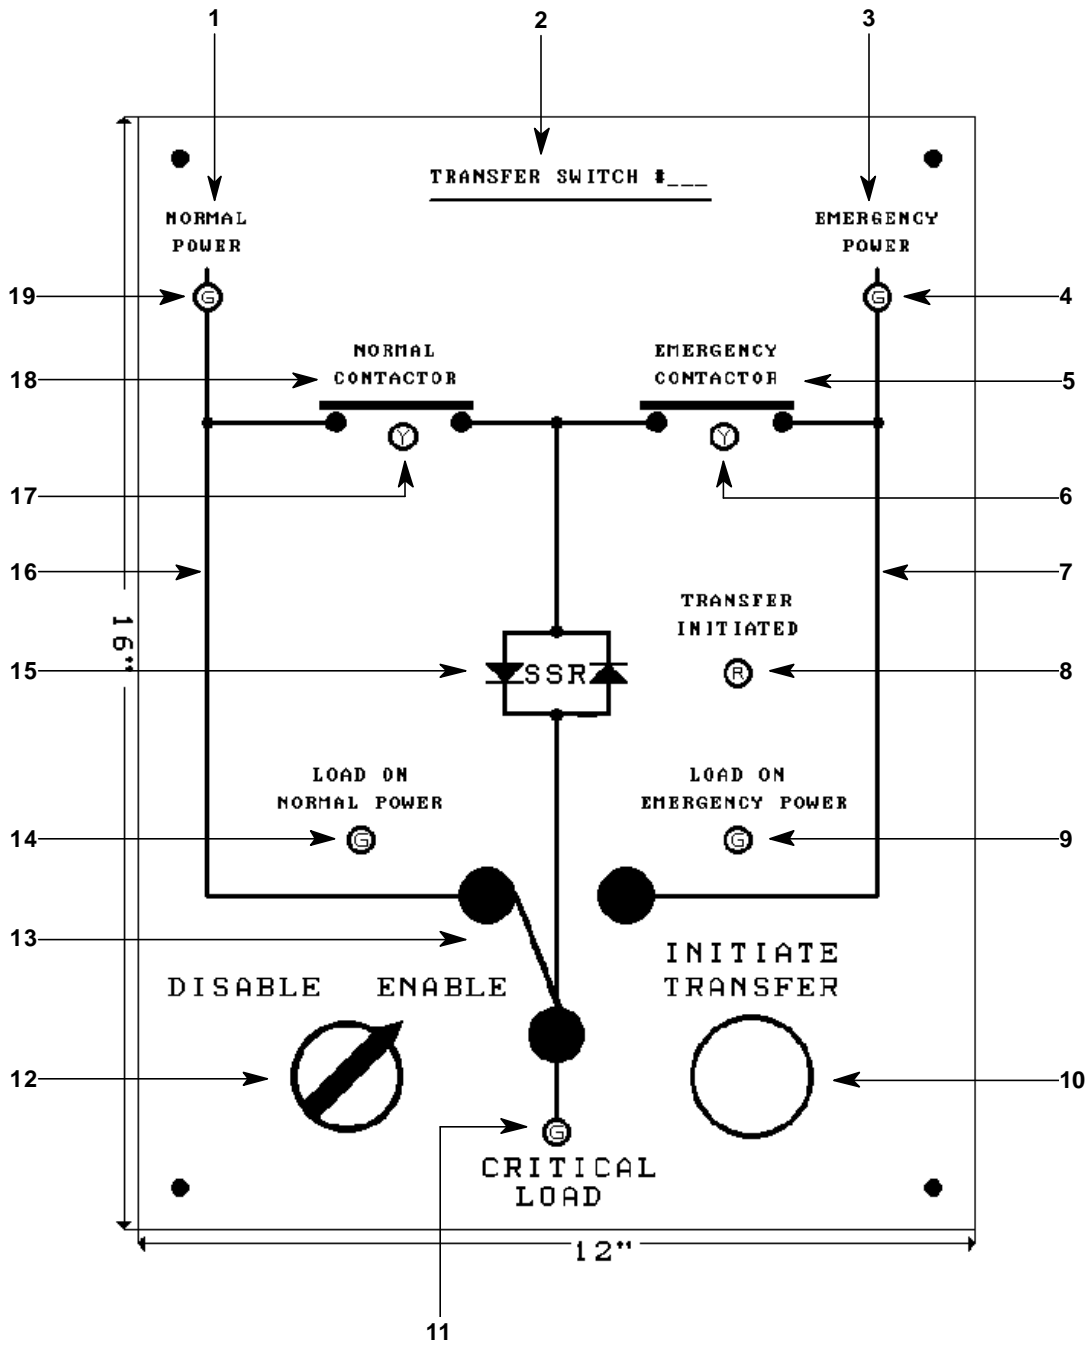

Figure 3.3 Mimic and Control
The detail of the "Standard" Mimic and Control Panel is shown in figure 3.3 . Table 3.1 provides the
8. With the ATS energized the SSTTS Mimic and Control panel LED indicators should be functional. The following indicators should be ON. (Applicable to Standard Mimic as per figure 3.3 "Mimic and Control". For Custom Mimic, refer to Section 6 "Mimic and Control".)